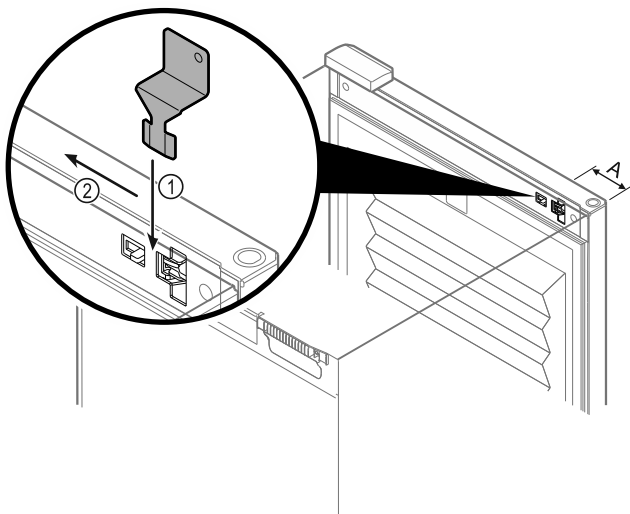

Fig. 218
- ▶ Position the emergency unlocking key in the location shown Fig. 218 (A) ≈ 100mm.
- ▶ Insert the emergency unlocking key from above between the door and the appliance body as far as it will go Fig. 218 (1).
- ▶ Drag the emergency unlocking key towards the hinge side Fig. 218 (2).